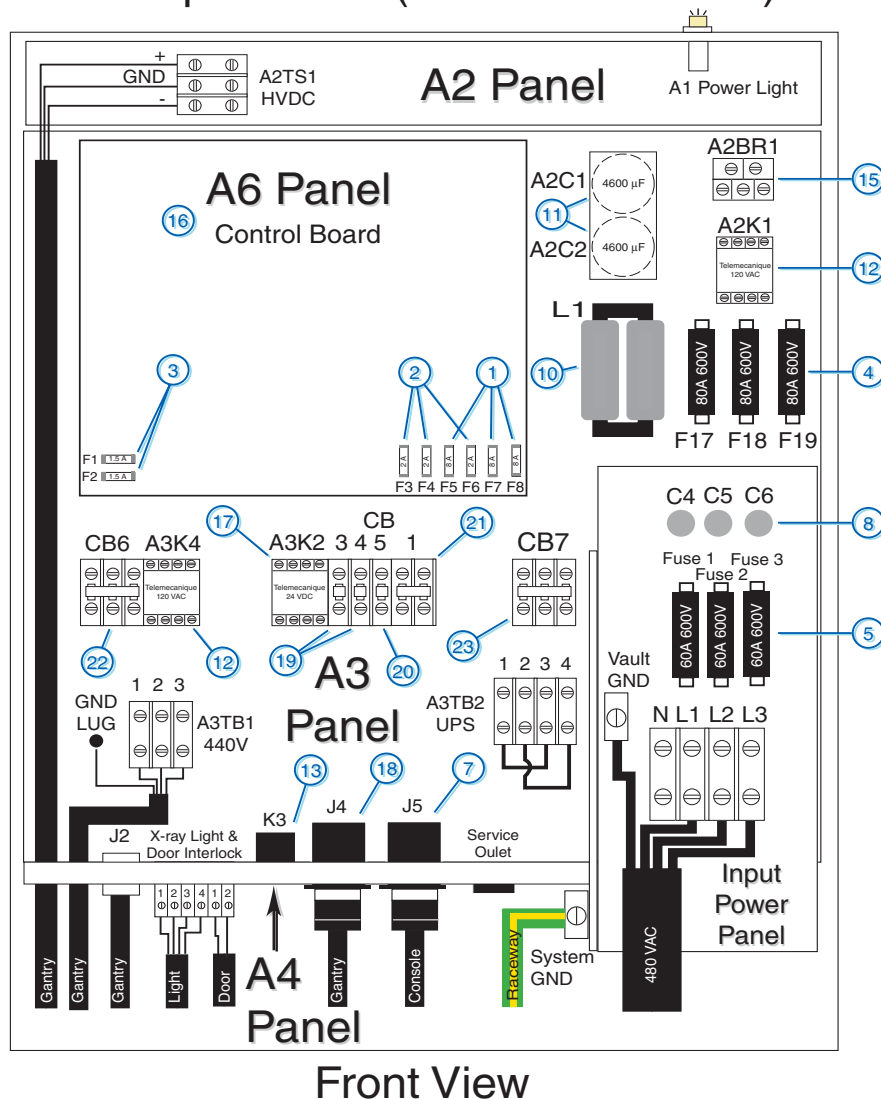
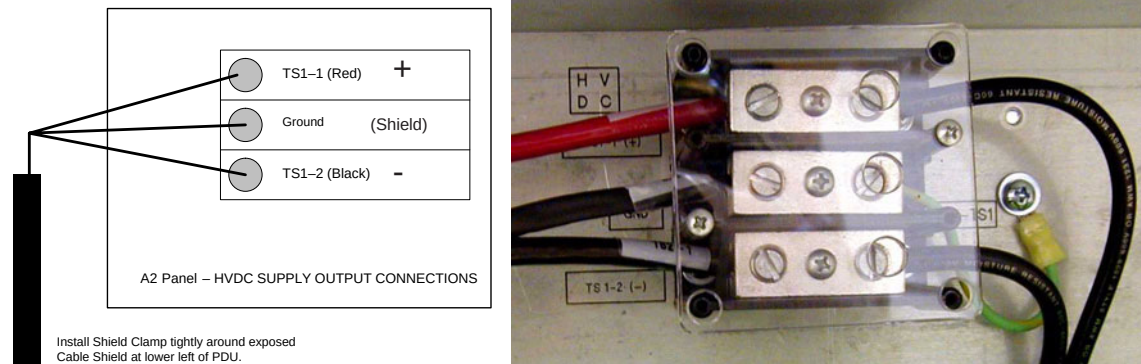
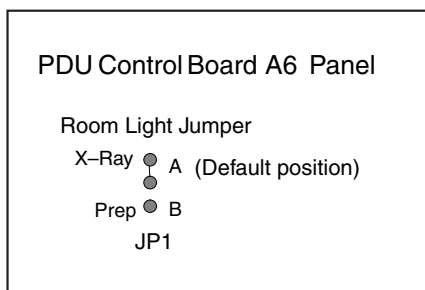

Figure 2-22 PDU Cable Connections - Front
Figure 2-27 HVDC Connection
Figure 2-31 X-ray Light Configuration
As seen in Figure 2-22, a number of cables must be installed throughout the PDU. Specific details on each connection can be found in the sub-sections that follow. Use Figure 2-22 for reference. The PDU has been designed to have cables routed into the PDU from its behind and/or from beneath it.
(See Figure 2-22.)
Connect the internally shielded HVDC cable to A2TS1 on the A2 panel. See Figure 2-22 for the location of the connector and Figure 2-27 for details. Observe polarities and grounds.
Connect the internally shielded 440V cable from the gantry to A3TB1 on the A3 panel. See Figure 2-22 for the location of the connector and Figure 2-27 for details. Observe the labels on the cable leads for proper identification and orientation.
Connect the ground wire (green with a yellow strip) from the Table/Gantry raceway ground bus to the system ground lug in the PDU. See Figure 2-22, on page 93, and Figure 2-30, below.
- 1.) Configure PDU control board for correct x-ray light operation. Determine whether the x-ray light should come on when high voltage is present or when x-ray is present. The board is shipped with the x-ray light turning "ON" when x-ray is present only. To change this, go to the PDU Control Board (see Figure 2-22, on page 93), and move the jumper from position "A" to position "B". See Figure 2-31. In the "B" position, the x-ray light illuminates whenever high voltage is present.